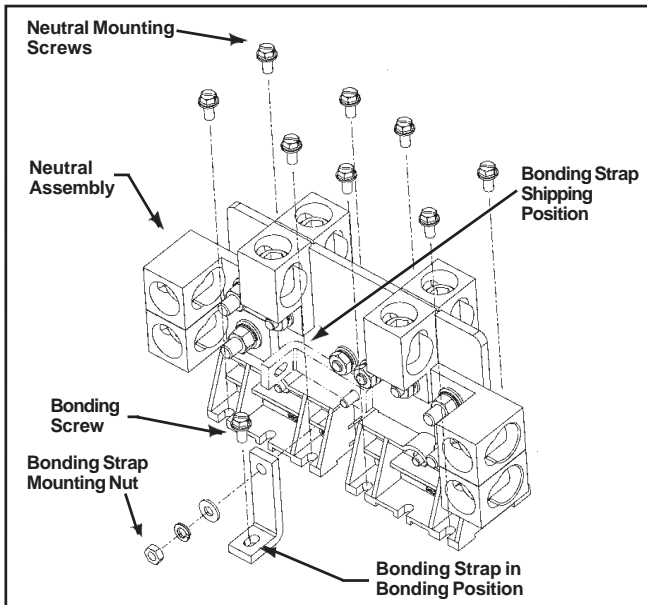

Fig. 1
- a. Loosen Bonding Strap mounting screw and reposition Bonding Strap to the bonding position on the Neutral Assembly as shown in Fig. 1. Torque Bonding Strap mounting screw to 65 lb-ins in this position.